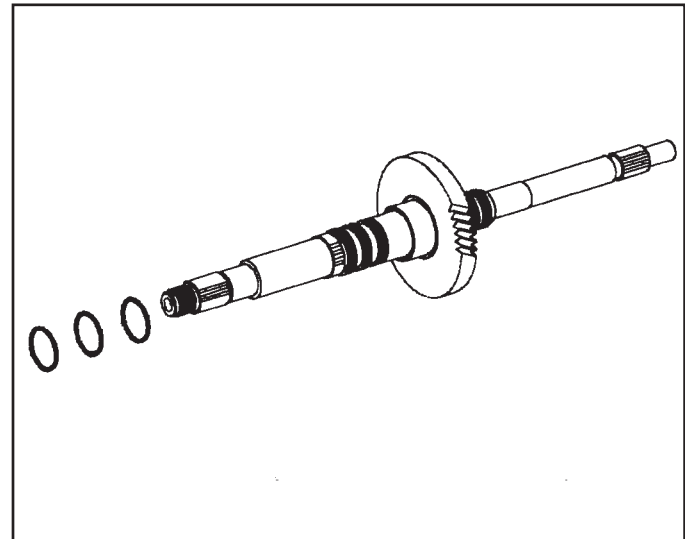

Figure 124
5. Set the drum aside. Lube and install new rubber O ring clutch seals into the grooves on the input shaft (See Figure 124).